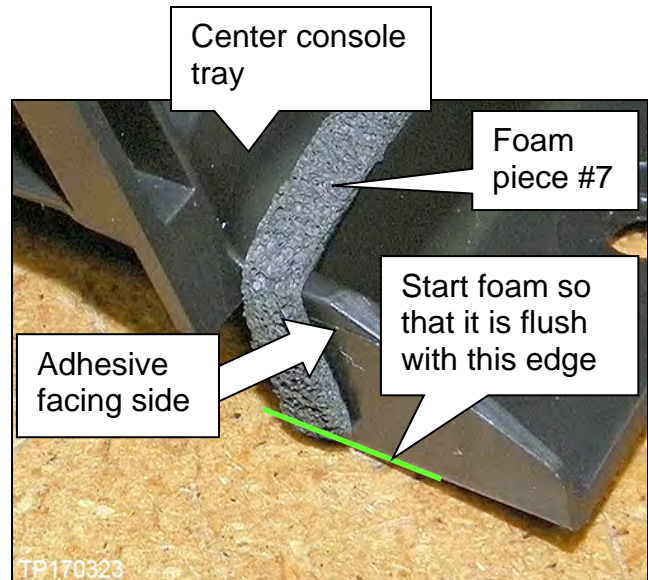

Figure 1C
- b. Align foam piece #7 on either the left or right side of the center console tray so that it is flush with the bottom edge (Figure 1C).